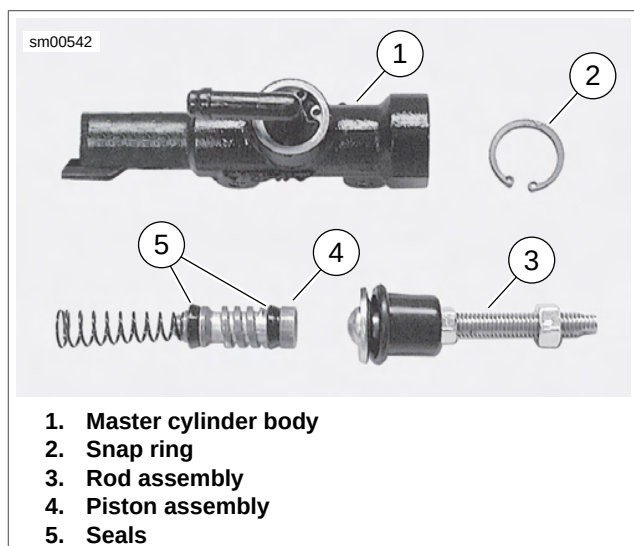

Figure 2-57. Master Cylinder Internal
1. See Figure 2-57. Slide rubber boot on rod assembly (3) away from master cylinder body (1).
2. Depress rod assembly (3) and remove internal snap ring (2). Discard snap ring.
3. Remove piston assembly (4) from master cylinder body (1).
4. Loosen adjuster locknut on the rod assembly (3).
5. Remove the clevis from the rod assembly (3).
2. See Figure 2-57. Assemble **new** piston components placing small end of spring behind primary seal of piston (4).
3. Lubricate master cylinder body (1) and piston seals (5) with **D.O.T. 4 BRAKE FLUID**.